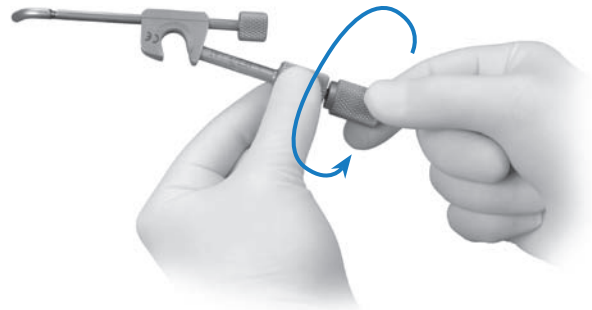

Fig.4
- Unlock the Telescoping Boom by loosening the knurled knob. (Fig. 4).